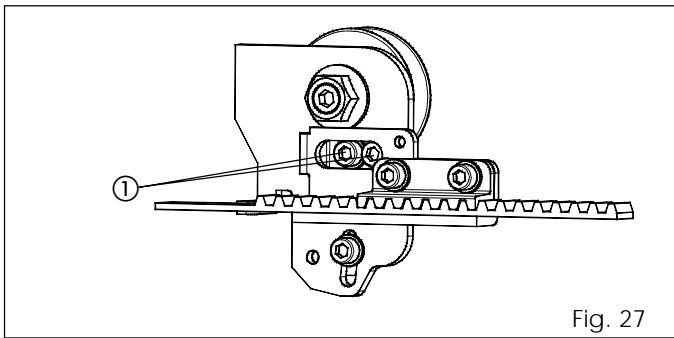

Fig. 27
- Loosen the two screws (fig. 27 ref. ①) on both carriages.